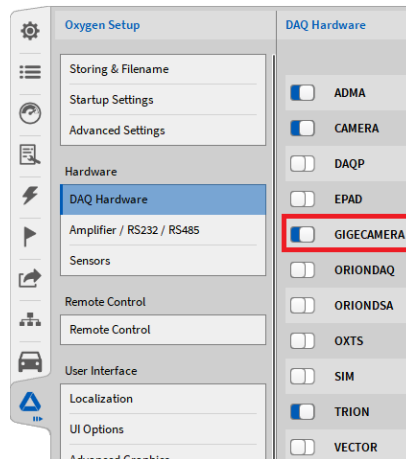

Figure 3-1
- To use an Alviium camera in OXYGEN, make sure that *GIGECAMERA* is enabled in the *DAQ Hardware Setup*. You can find it in the *OXYGEN Setup* tab (see Figure 3-1).